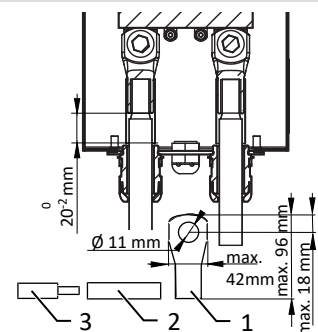

Fig. 27: Configuring the DC cable
- **WARNING! Risk of short circuit due to incorrect size of the cable lug! Observe the dimensions for the selection.** [See figure 27 ▶ Page 29]